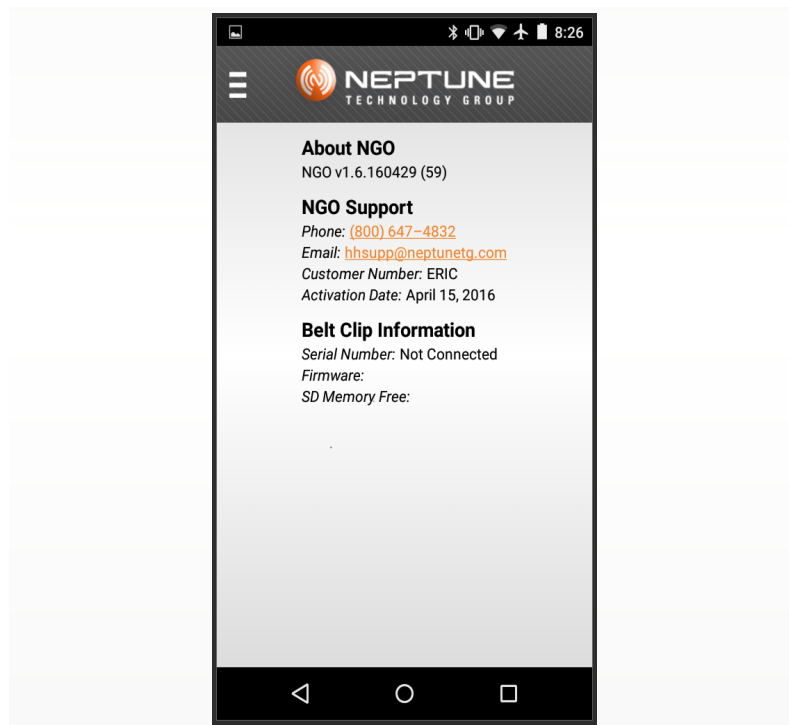

Figure 2 About NGO Screen
3. Select **About** to display information such as the app release version number, Neptune NGO Support contact information, and R900 BCT information. See Figure 2 on page 4.